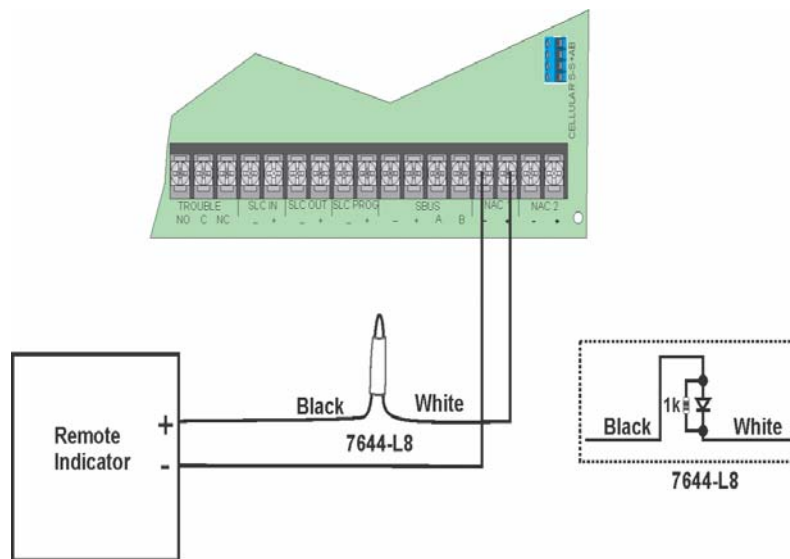

Figure 4-50 Polarity Reversal Connection Using the 7644-L8
1. Wire the 7644-L8 to the control panel as shown in Figure 4-50. Do not install an EOL resistor on the terminals of the NAC circuit used.